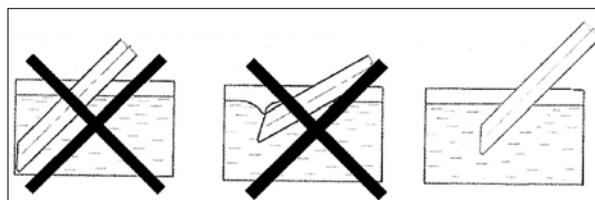

Fig. 5: Lance positions
- ▶ Make sure that the lance is below the oil level (fig. 5).
- ▶ Proceed with the suction tube lance in the same way; put it into the container with the oil to be purified (fig. 5).